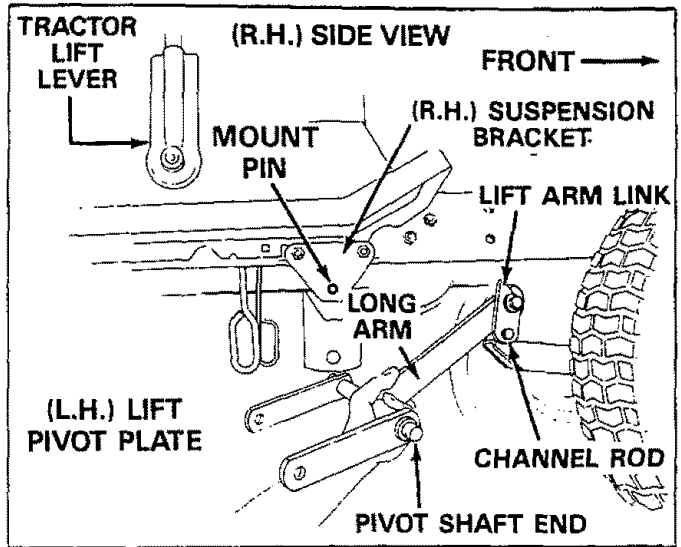

FIGURE 17
10. Assemble lift arm link over channel rod and insert pivot shaft end (from R.H. side of tractor) into hole in L.H. lift pivot plate. See figure 17.
11. Assemble right hand lift pivot plate over right hand end of lift assembly pivot shaft and secure to right hand suspension bracket mount pin with one 17/32" x 1-1/2" washer and one hair pin cotter. See figures 17 and 18.